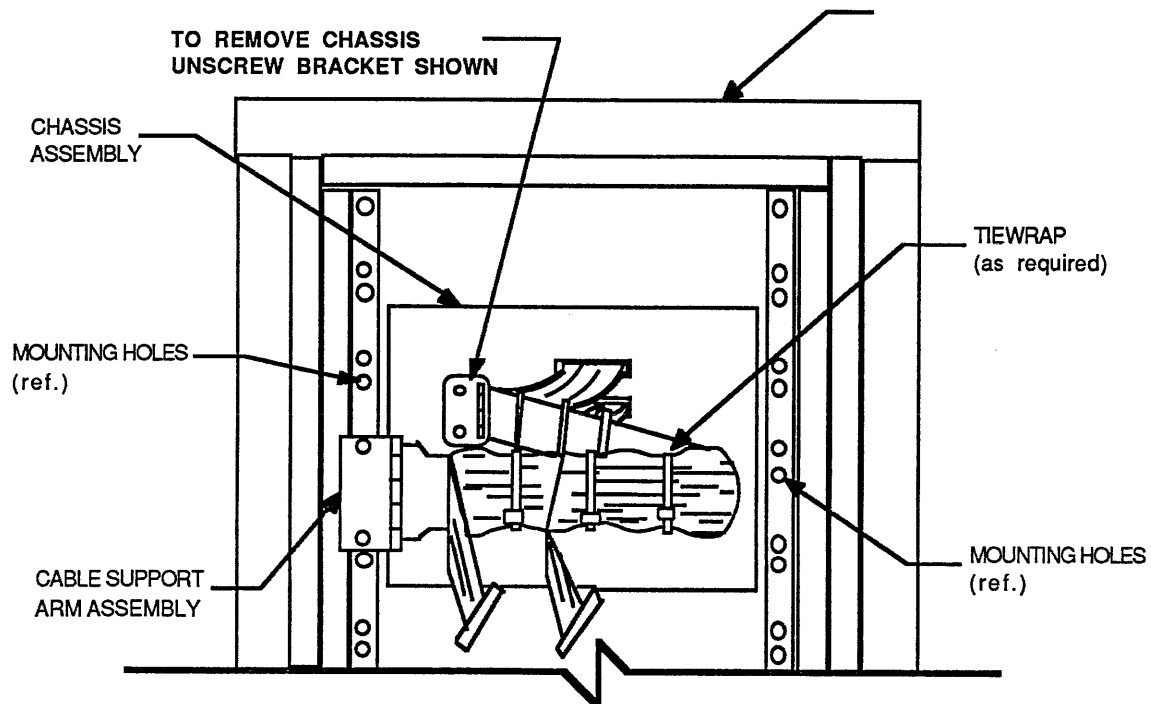

Figure 6.5.1.1 Cable Support Arm Assembly
- 4) Use a #2 Phillips head screwdriver and a crescent wrench to remove the cable support arm's retaining bolts from the backpanel of the 6U. Please note the placement of the washers. Refer to Figure 6.5.1.1.
- 4) Use a #2 Phillips head screwdriver and a crescent wrench to remove the cable support arms' retaining bolts from the backpanel of the 9U to be removed. Please note the placement of the washers. Refer to Figure 6.5.1.
- 4) Place a piece of cardboard inside the CIG to cover the blower assembly, then slide out the chassis above the 9U and remount the cable support arm assembly. Refer to Figure 6.5.1.